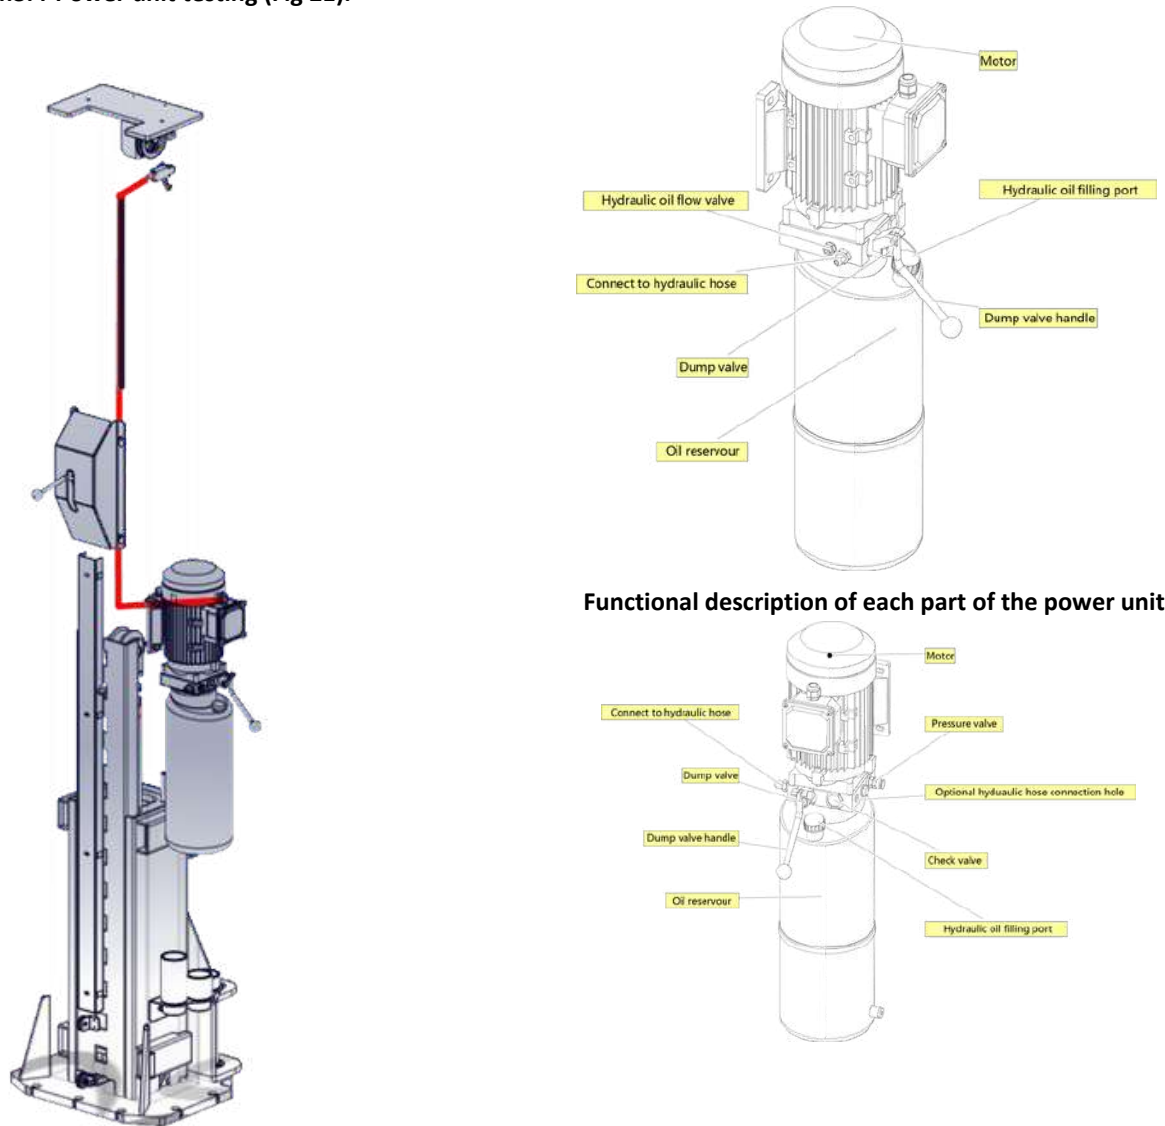

Fig 21 Power Unit Diagram
4.3.4-Power unit testing (Fig 21).